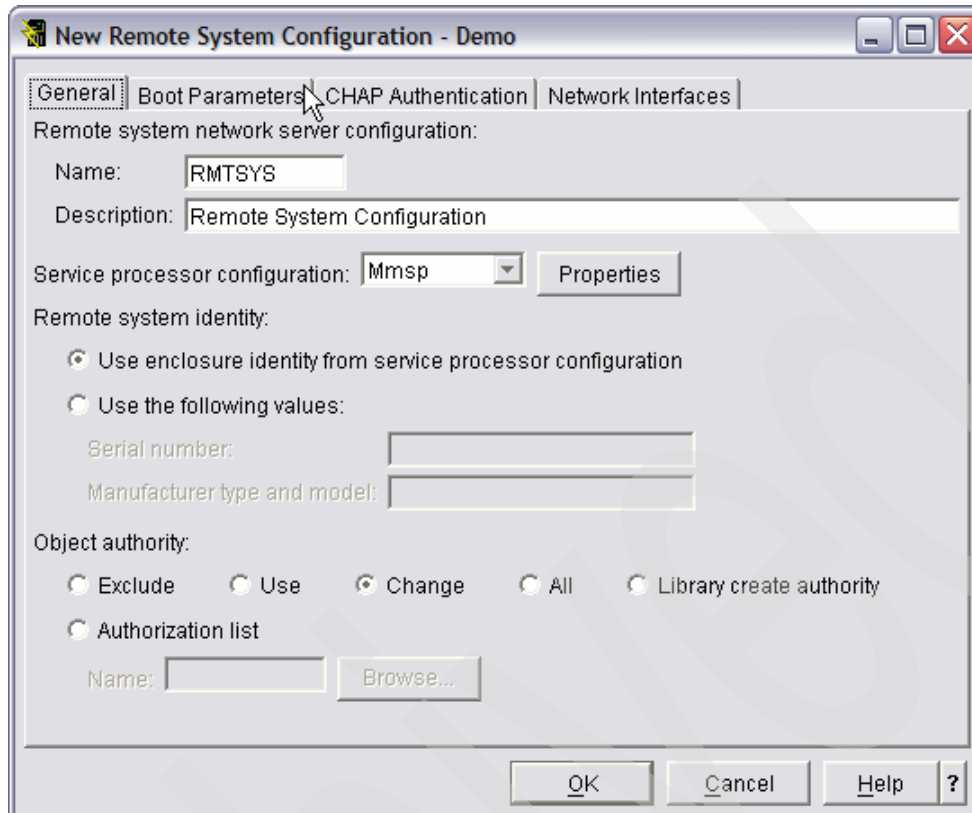

Figure 6-38 General tab New Remote System Configuration window
- c. The New Remote System Configuration window opens (Figure 6-38 on page 186), on the General tab, enter the following: